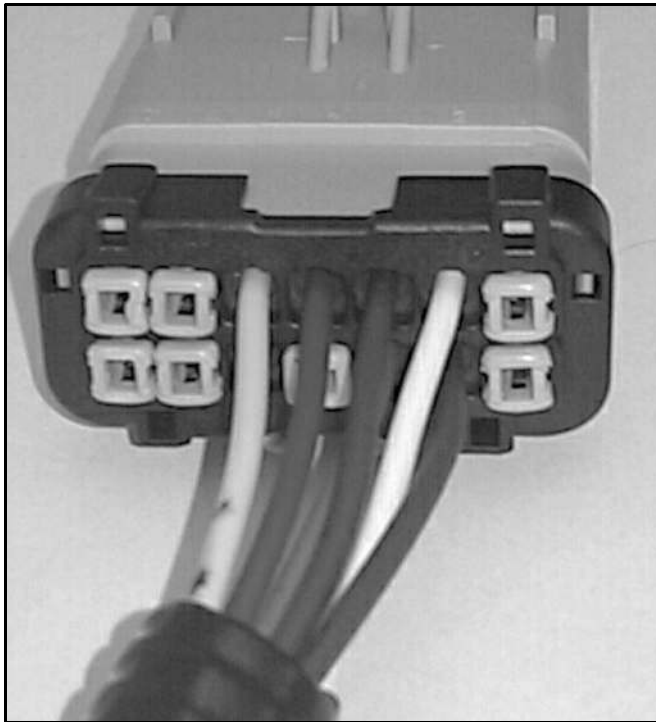

Figure 12
14. Relocate the wires and plugs from the Black connector to the Gray connector as described in step 4, except cut and remove the Violet wire jumping from pin 7 to pin 1. (See Figure 12.)